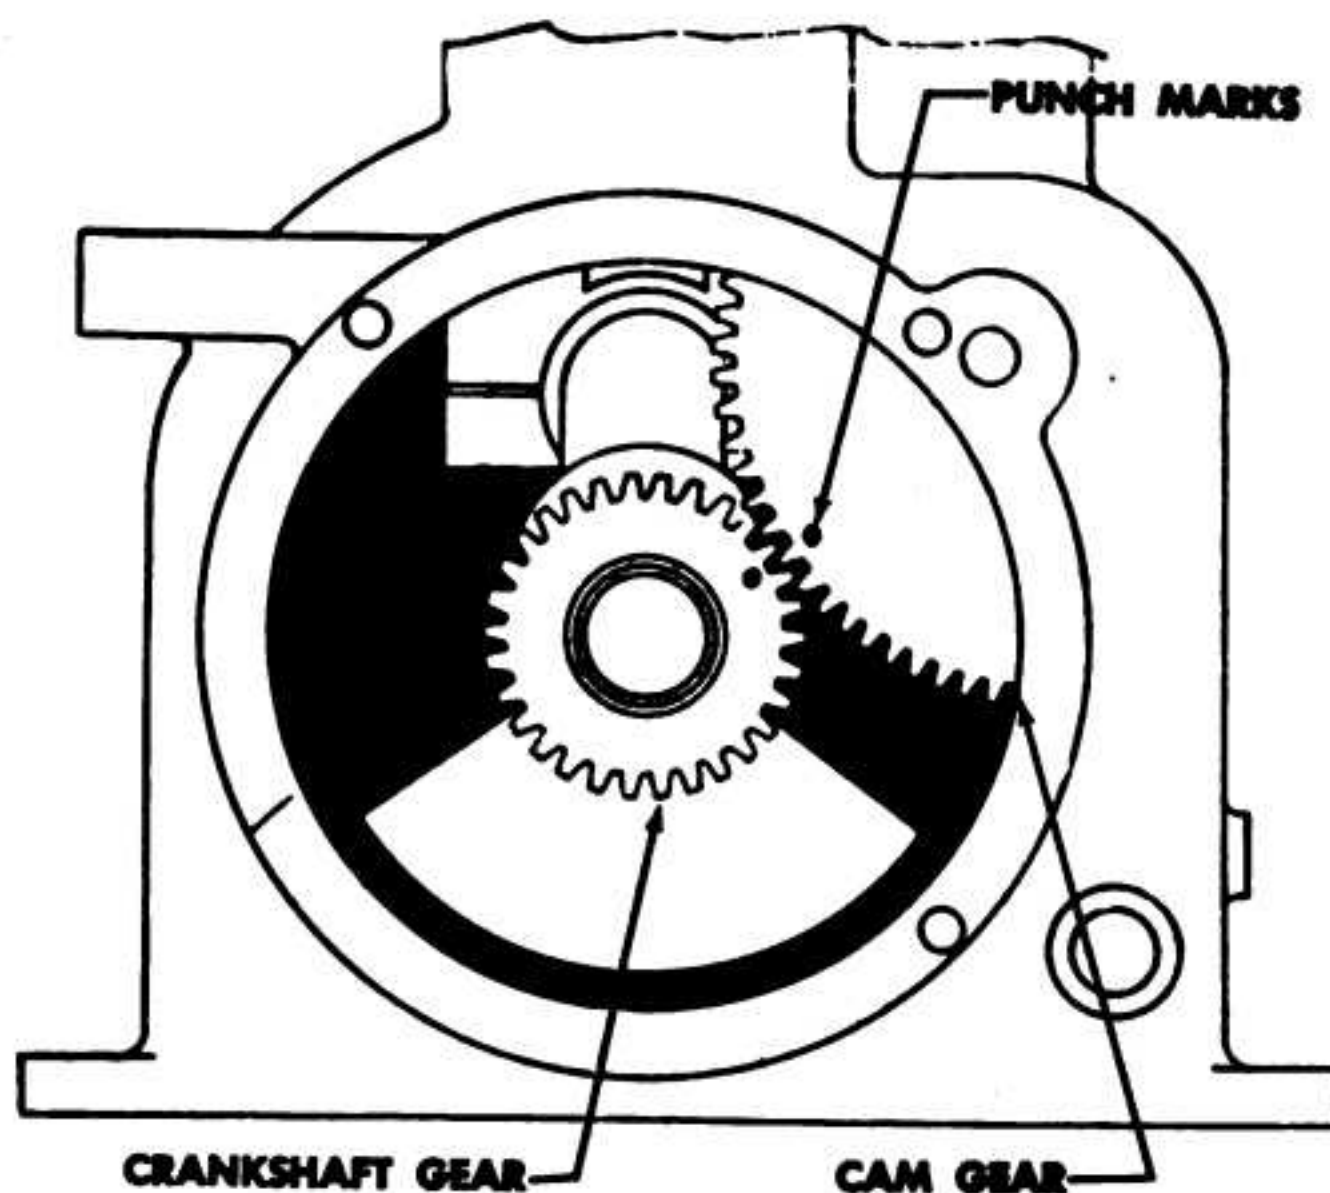

Figure 43—Timing Marks
(1) Position crankshaft in cylinder assembly, making sure timing marks on the camshaft and crankshaft are aligned as shown in figure 43.
(2) Install crankcase cover, using a new gasket; secure with capscrews and lockwashers.